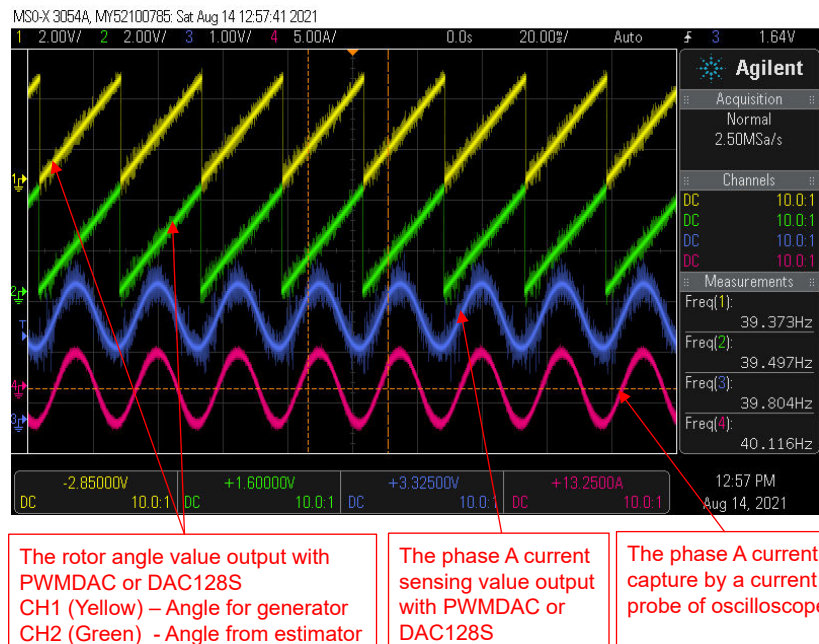

Figure 2-33. Build Level 2: Motor Rotor Angle and Phase Current Waveforms
- c. Configuring DAC128S module four inputs as the following codes. The angle from the force angle generator or estimator waveforms on the oscilloscope as shown in Figure 2-33. Notice that the angle of the force angle generator is very similar as the estimated rotor angle of the FAST or eSMO estimator, only a little bit shift error could be between these two angles. That means the FAST or eSMO estimator works as expected with the motor parameters and the sampling current and voltage signals.
Use DAC128S085EVM with an oscilloscope to monitor the rotor angle of the motor from the angle generator and the angle from the FAST estimator as shown in Figure 2-33.